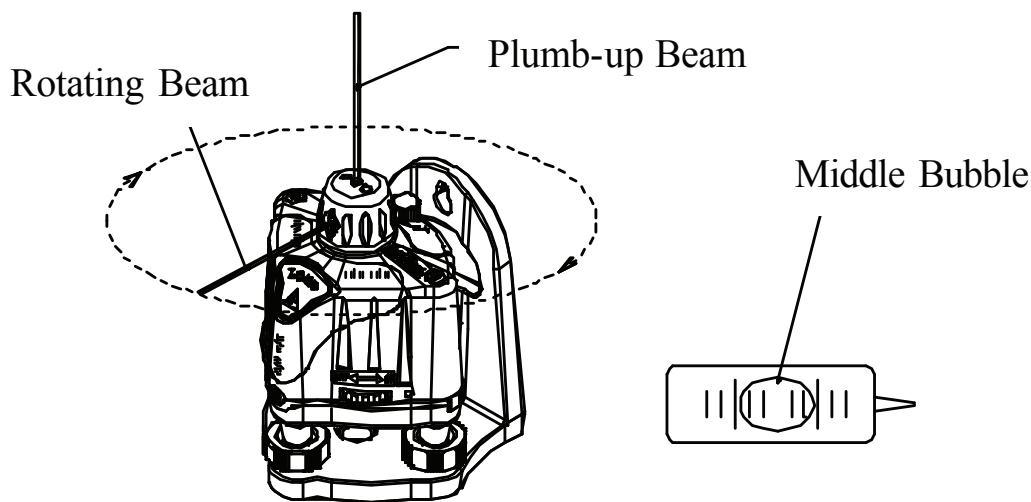

FIG. 4
- b) As shown in FIG. 4, place the instrument on the flat table or tripod (connected with the tripod through the 5/8"-11 screw thread);